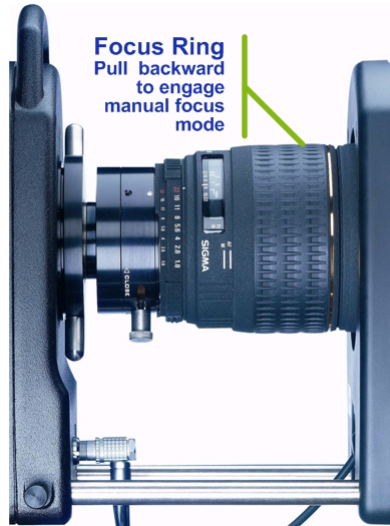

Figure C-5: Camera focus ring
- **Visible Red:** the white mark, as shown in Figure C-5.